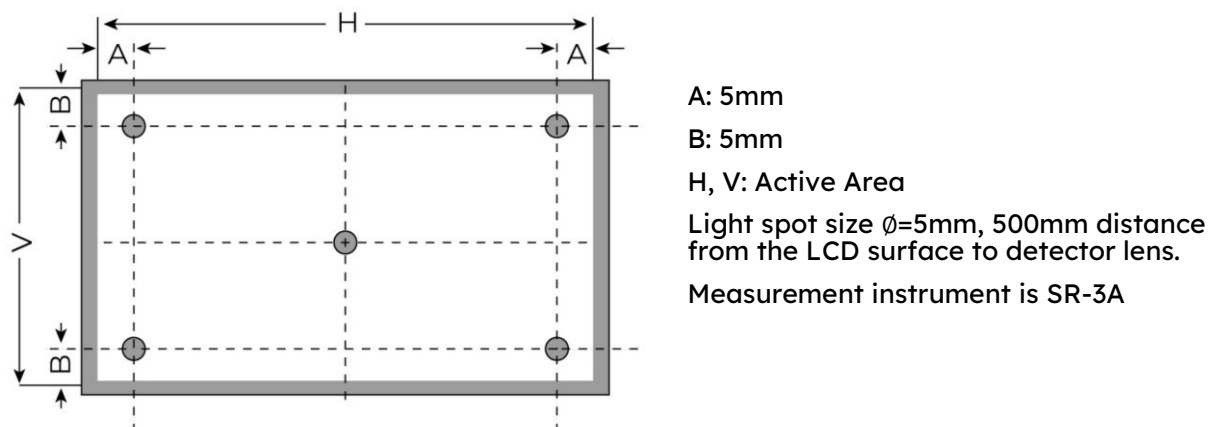

Figure 3. Measuring method for Contrast ratio, surface luminance, Luminance uniformity, CIE (x, y) chromaticity
| Contrast Ratio             | Cr       |                                                | 600   | 800   | -     | ---               | FIG 3. | 1, 7 |
| Uniformity                 | U        | -                                              | 70    | 75    | -     | %                 | FIG 3. | 3    |
| CIE (x, y)Chromaticity | Rx       | $\theta=0^\circ$$\phi=0^\circ$Ta=25 °C | 0.581 | 0.611 | 0.641 | -                 | FIG 3. | 5,7  |
**Note 6.** For TFT module, viewing angle is the angle at which the contrast ratio is greater 10. The angles are determined for the horizontal or x axis and the vertical or y axis with respect to the z axis which is normal to LCD surface. For more information see Figure 3.